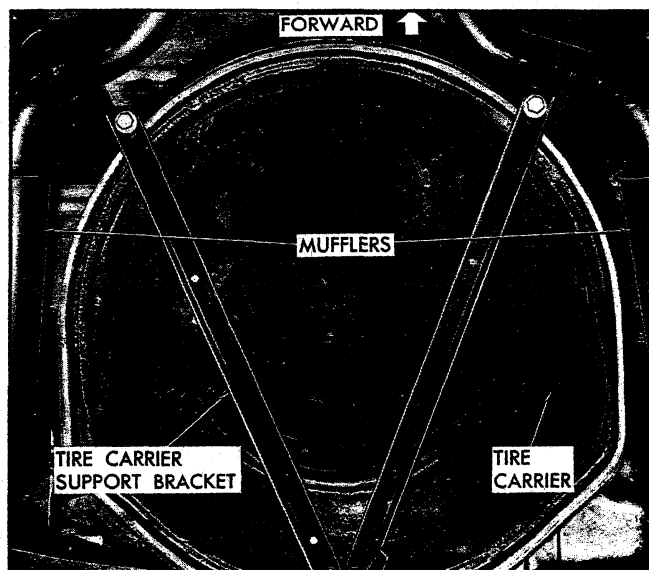

Fig. 22—Spare Tire Carrier Installed
2. Remove spare tire carrier bolted attachments and carrier (fig. 22).